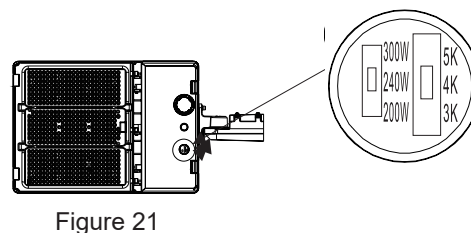

Figure 21
Step 2: After adjusting the required control function, tighten the metal plug and the plastic plug clockwise (Fig. 21)